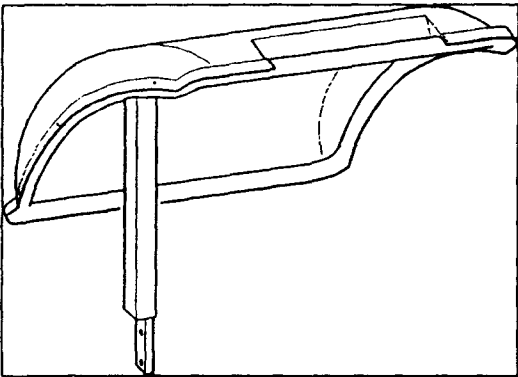

Fig.6
**#14020484 Wheel guard (Fig.6).**